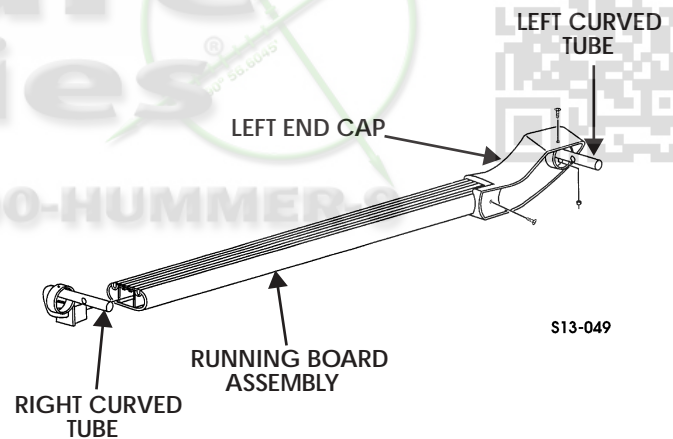

Figure 13-48: Left End Cap Secured to Left Curved Tube
2. Remove screw, nut, and screw securing the left end cap to the left curved tube (Figure 13-48).
7. Position right curved tube (with orange plastic bushing) into running board. Ensure right curved tube points toward the side of the running board with the “this side toward frame” decal (Figure 13-48).